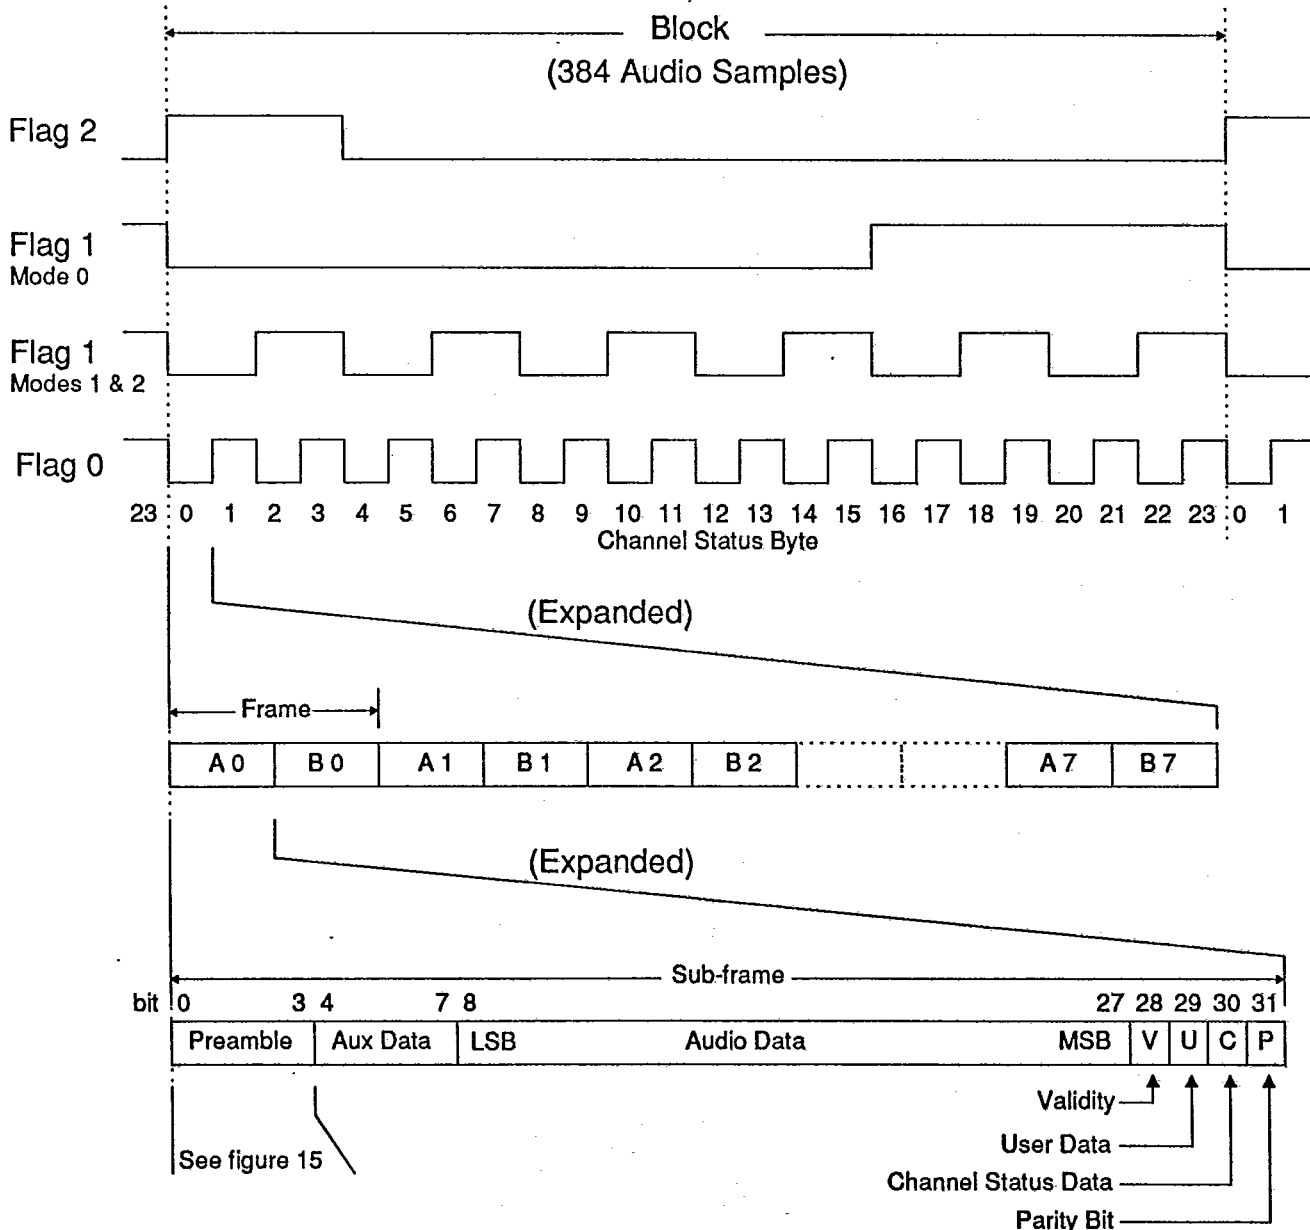
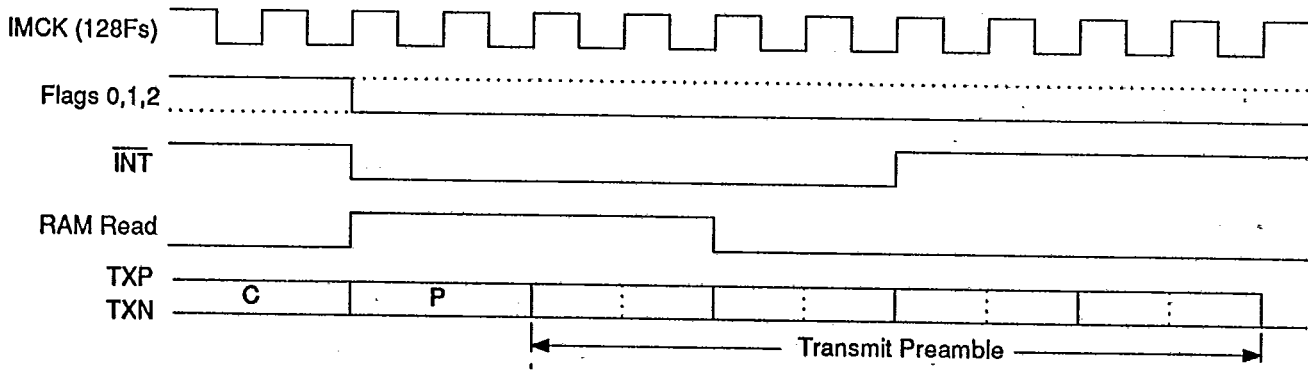
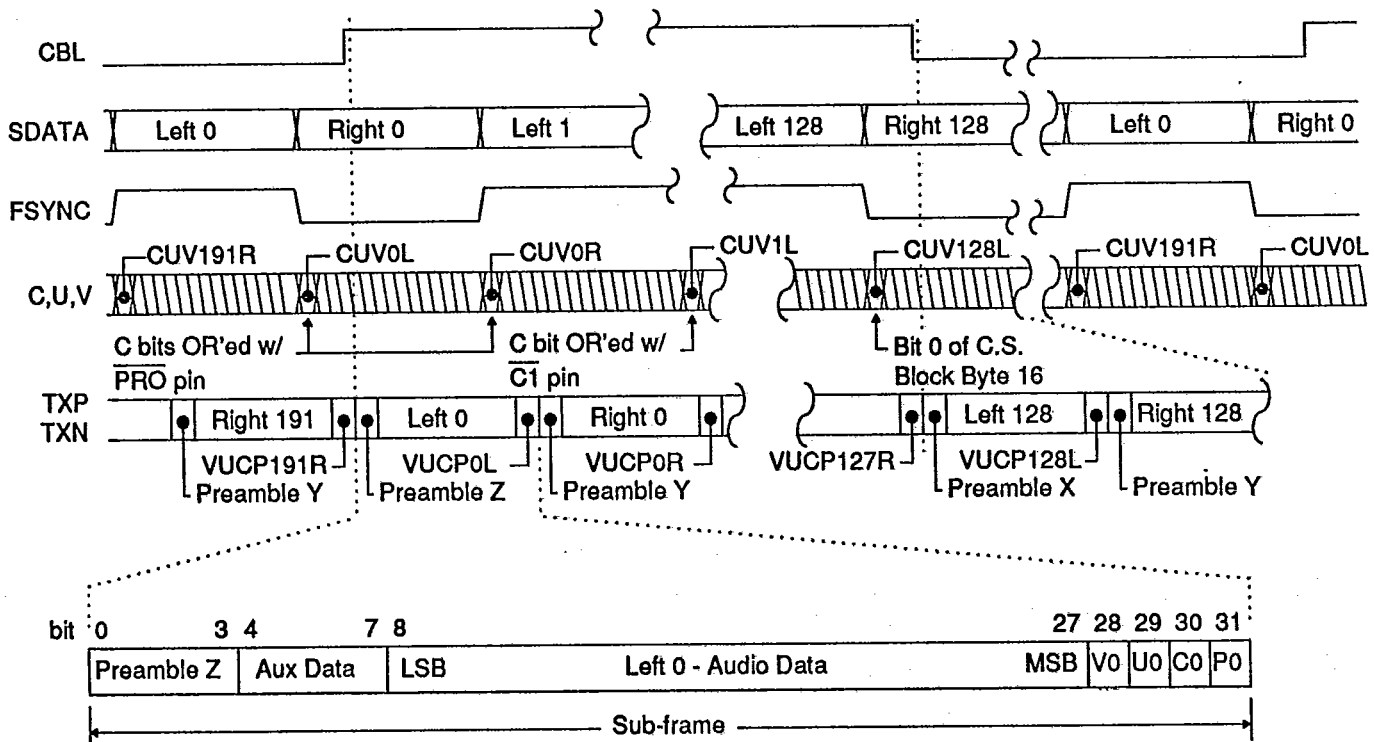

Figure 11. CS8401 Status Register Flag Timing
Figure 15. RAM/Buffer-Read and Interrupt Timing
Figure 17. CBL and Transmitter Timing
FLAG1: Memory mode dependent - See figure 11
bytes of channel status, and the last 20 bytes are free to update. If the interrupt mask bit for flag 2 is set, the rising edge will cause an interrupt indicating the beginning of a channel status block as shown in figure 11. Although a falling edge on flag 0 and flag 1 may cause an interrupt, the falling edge of flag 2 will not.
Figure 11 illustrates the flag timing for an entire channel status block which includes 24 bytes of channel status data and 384 audio samples. (This
figure assumes the channel status bit is the same for the audio pair.) The lower portion of figure 11 expands the first byte of channel status showing eight pairs of data with a pair defined as a frame. This is further expanded showing the first sub-frame (A0) to contain 32 bits as per the AES/EBU specifications (see Appendix A). When transmitting stereo, channel A is left and channel B is right. The preamble at the bottom of figure 11 is expanded in figure 15 to show the exact timing between flags, the interrupt pin, and internal buffer-read timing.
ly being addressed by the part. Interrupts occur at flag edges indicating the exact byte that the part is currently reading. Utilizing  $\overline{INT}$  along with the flags, the byte currently being read by the part can be avoided allowing access to all other bytes instead of just a section. Figure 15 illustrates the timing between flags,  $\overline{INT}$ , and the internal reading of the buffer for transmission. The master clock IMCK is shown as  $128 \times F_s$ . Other MCK frequencies are initially divided to obtain  $128 \times F_s$ , defined as IMCK (internal
MCK), which is then used for all internal timing, so the timing in figure 15 is valid for all MCK frequencies. When the parity bit (P) is transmitted, a transition on a flag causes  $\overline{INT}$  to go low if the appropriate mask bit is set. Concurrently, the part starts reading from the internal buffer. Writing to the buffer ram location being read by the part should be avoided while the internal "ram read" signal is high.
As shown in figure 17, CBL, channel block start output, can assist in serially inputting the C, U and V bits as CBL goes high one bit period before the first bit of the preamble of the first sub-frame of the channel status block is transmitted. This sub-frame contains channel status byte 0, bit 0. CBL returns low one bit period before the start of the frame that contains bit 0 of channel status byte 16. CBL is the exact inverse of flag 1 in mode 0 on the CS8401 (see figure 11). CBL is not available when the CD subcode port is enabled.
Figure 17 illustrates timing for stereo data input on the audio port. Notice how CBL rises while the right channel data (Right 0) is input, but the previous left channel data (Left 0) is being transmitted as the first sub-frame of the channel status block (starting with preamble Z). The C, U, and V input ports only need to be valid for a short period after FSYNC changes. A sub-frame includes one audio sample while a frame includes a stereo pair. A channel status (C.S.) block contains 24 bytes of channel status and 384 audio samples (or 192 stereo pairs, or frames, of samples). Figure 17 shows the CUV ports as having left and right bits (e.g. CUVOL, CUVOR). Since the C.S. block is defined as 192 bits, or one bit per frame, there are actually 2 C.S. blocks, one for channel A (left) and one for channel B (right). When inputting stereo audio data, both blocks normally contain the same information, so COL and COR from the input port pin are both channel status bit 0 of byte 0, which is defined as professional/consumer. These first two bits from the port, COL and COR, are logically OR'ed with the inverse of PRO, since PRO